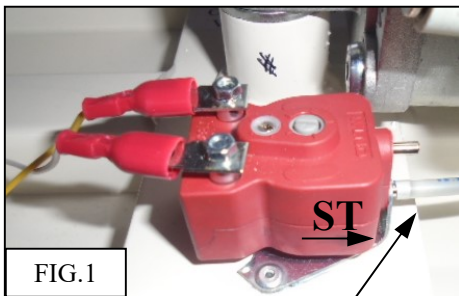

FIG.1
- 1:1.1. Check silver pipe is connected to lower port on pressure switch see fig.1
- 2:3 Check pressure switch by pulsing air into lower port see fig.1
1. Operate door to the fully open position then you must turn Electric OFF if Electric actuator or Dump Air if Pneumatically operated. (See Fig.1 & Fig.1a).